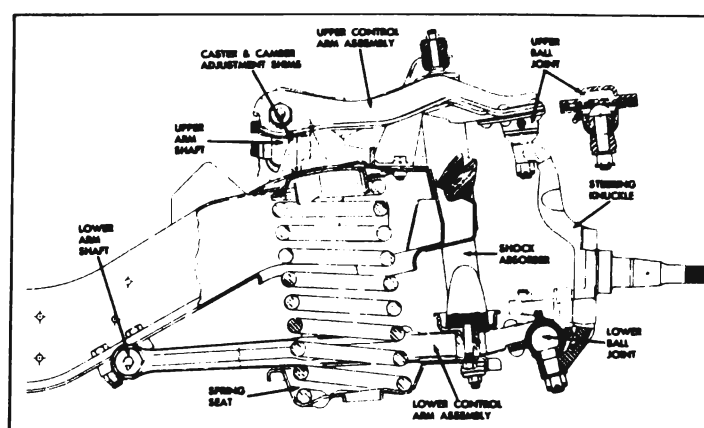

Figure 7-16—Front Spring and Shock Absorber Installation
1. Remove upper and lower mounting stem nuts, grommet retainers and grommets. See Figure 7-16.
1. With the front wheels resting on full floating turntables, turn wheels to the right until the outside (left) wheel is set at 20 degrees. The inside (right) wheel should then set at angle specified in figure 7-16.